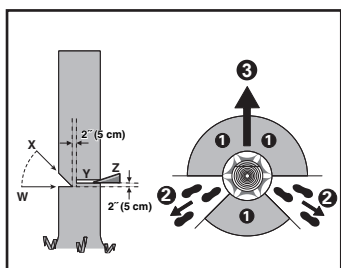

Figure 2
The escape path should extend back and diagonally to the rear of the expected line of fall as illustrated in Figure 2.
Make the notch 1/3 the diameter of the tree, perpendicular to the direction of fall as illustrated in Figure 2. Make the lower horizontal notching cut (W) first. This will help to avoid pinching either the saw chain or the guide bar when the second notch (X) is being made.
Make the felling back cut (Y) at least 2" (5 cm) higher than the horizontal notching cut as illustrated in Figure 2. Keep the felling back cut parallel to the horizontal notching cut.